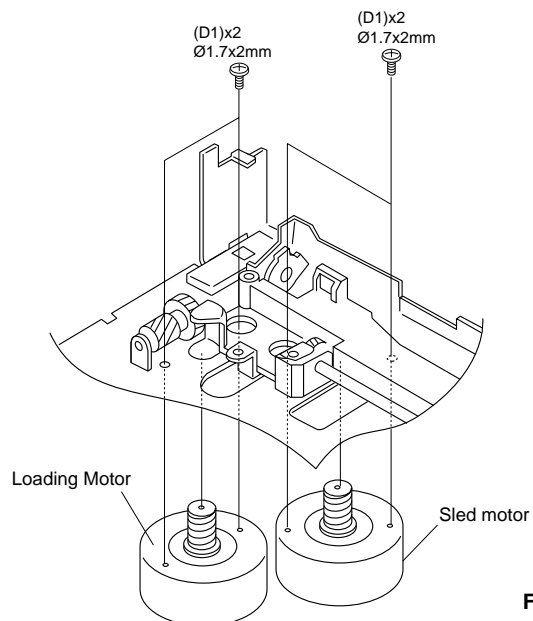

Fig. 8
**Removal of Sled Motor/Loading Motor (Fig.8)**